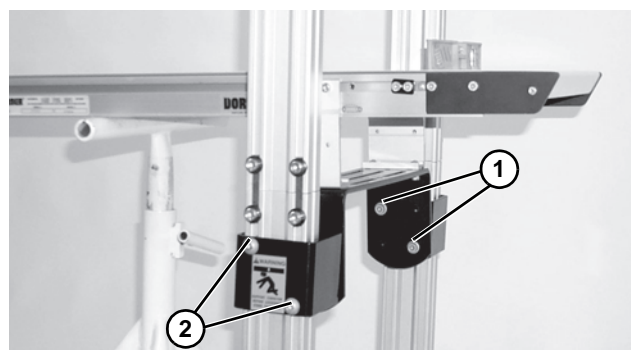

Figure 10
Failure to secure screws (Figure 10, item 1 and 2) may cause conveyor section(s) to drop down causing severe injury.
TIGHTEN SCREWS (Figure 10, item 1 and 2) AFTER ADJUSTMENT.
15. Tighten four flange socket head screws (**Figure 10, item 1**) to 24 ft-lb (33 N-m).
16. Tighten four button head screws (**Figure 10, item 2**) to 17 ft-lb (22.5 N-m).